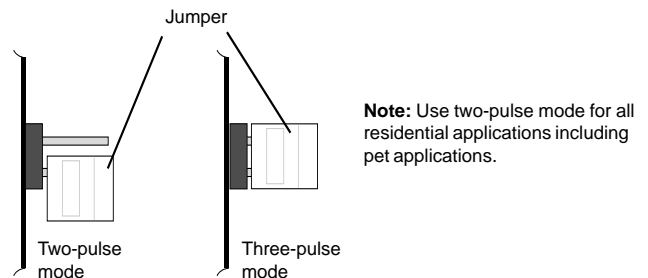

Figure 5. Zone Selection
B. Place the zone selection jumper in two-pulse mode. See Figure 5.